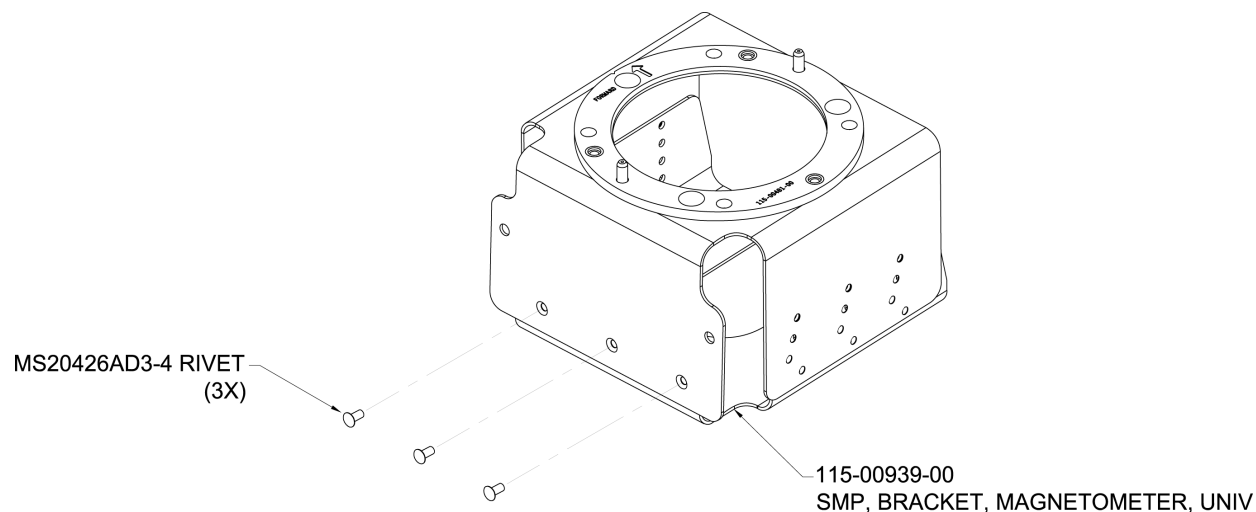

Figure A-10 Lancair IV/IV-P GMU 22 Mounting Bracket Assembly
6. Rivet the Top Bracket Assembly (115-01017-00) to the Universal Bracket Assembly (115-00939-00) as shown in Figure A-10 and Figure A-11.